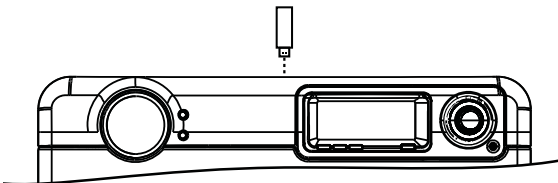

Figure 4.8: Inserting USB Flash Drive
5. Insert the USB flash drive into the USB port located on top of the oven's control panel (Figure 4.8).
6. Insert the USB flash drive into the USB port located on top of the oven's control panel (Figure 4.8) and select "Begin."
3. Insert the USB flash drive into the USB port located on top of the oven's control panel (Figure 4.8) and select "Begin."